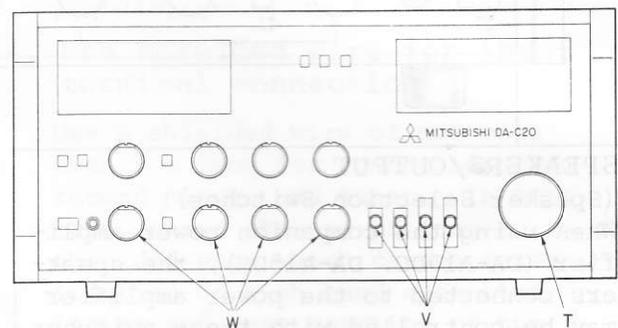

Fig. 3
- 3) Remove the controls on the front panel. (Being of a hexagonal screw type, the tuning knob (T in Fig. 3) should be removed by means of a hexagonal screw driver having a 2 mm opposite side.) As regards the rest of the knobs and controls except the push control, the four control (V) and 8 knobs (W) should be removed by pulling them out in a forceful manner toward this side.